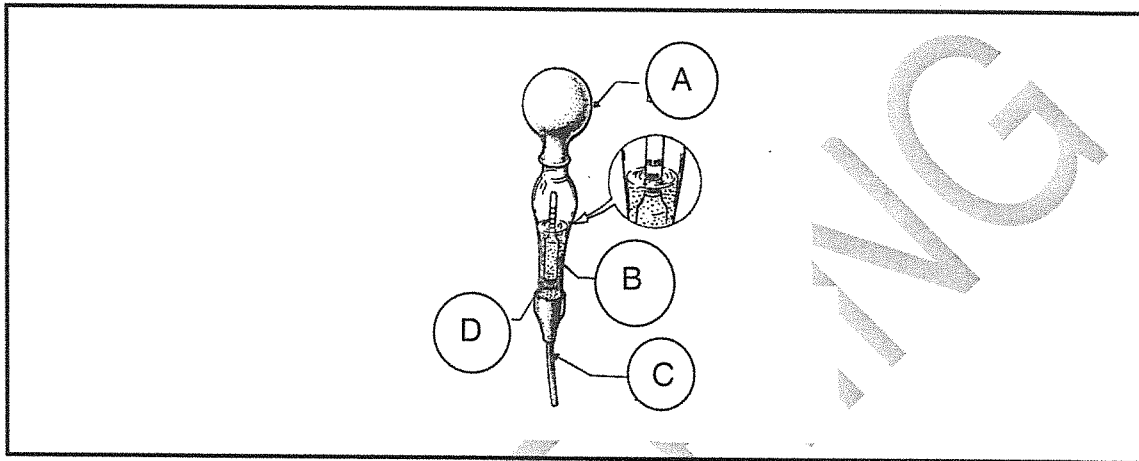

FIGURE 6
5.1 FIGURE 6 below shows a measuring instrument.